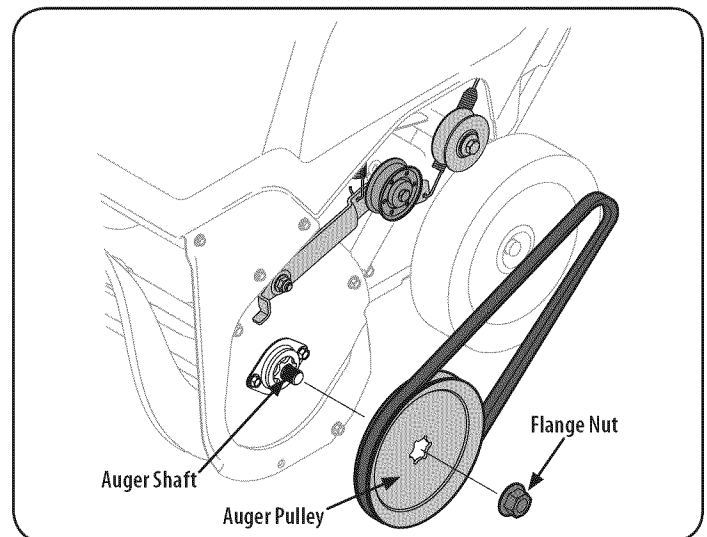

Figure 23
5. Remove the flange nut that secures the auger pulley to the auger shaft. See Figure 23.